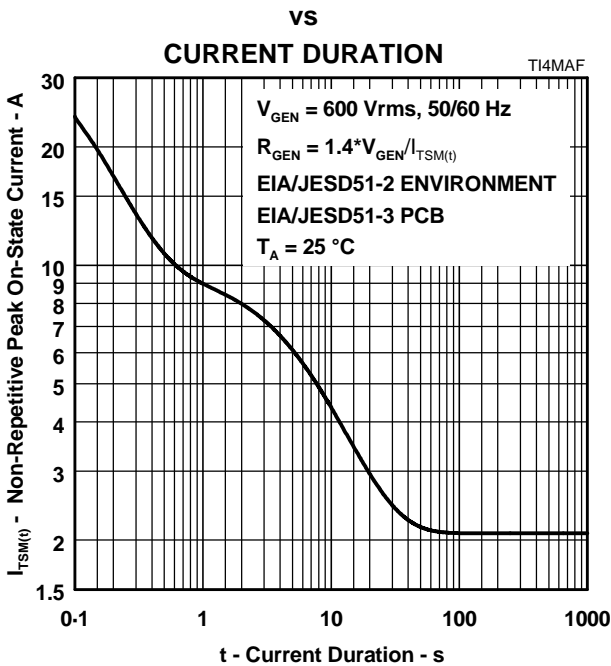

Figure 8.
5. EIA/JESD51-2 environment and EIA/JESD51-3 PCB with standard footprint dimensions connected with 5 A rated printed wiring track widths. See Figure 8 for the current ratings at other durations. Derate current values at $-0.61\%/\text{C}$ for ambient temperatures above 25°C
The protector can withstand currents applied for times not exceeding those shown in Figure 8. Currents that exceed these times must be terminated or reduced to avoid protector failure. Fuses, PTC (Positive Temperature Coefficient) resistors and fusible resistors are overcurrent protection devices which can be used to reduce the current flow. Protective fuses may range from a few hundred milliamperes to one ampere. In some cases it may be necessary to add some extra series resistance to prevent the fuse opening during impulse testing. The current versus time characteristic of the overcurrent protector must be below the line shown in Figure 8. In some cases there may be a further time limit imposed by the test standard (e.g. UL 1459 wiring simulator failure).